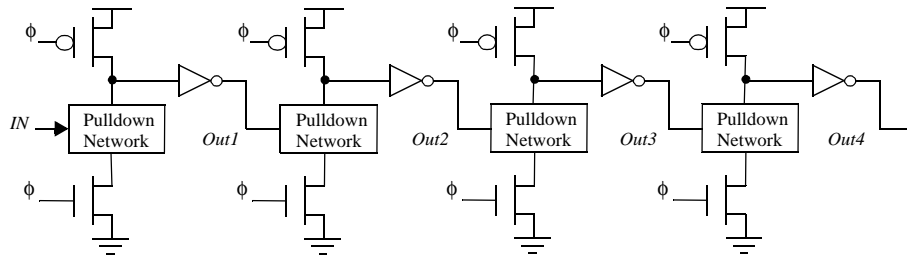

Figure 6.15 Conventional DOMINO Dynamic Logic.
22. Consider a conventional 4-stage Domino logic circuit as shown in Figure 6.15 in which all precharge and evaluate devices are clocked using a common clock  $\phi$ . For this entire problem, assume that the pulldown network is simply a single NMOS device, so that each Domino stage consists of a dynamic inverter followed by a static inverter. Assume that the precharge time, evaluate time, and propagation delay of the static inverter are all  $T/2$ . Assume that the transitions are ideal (zero rise/fall times).